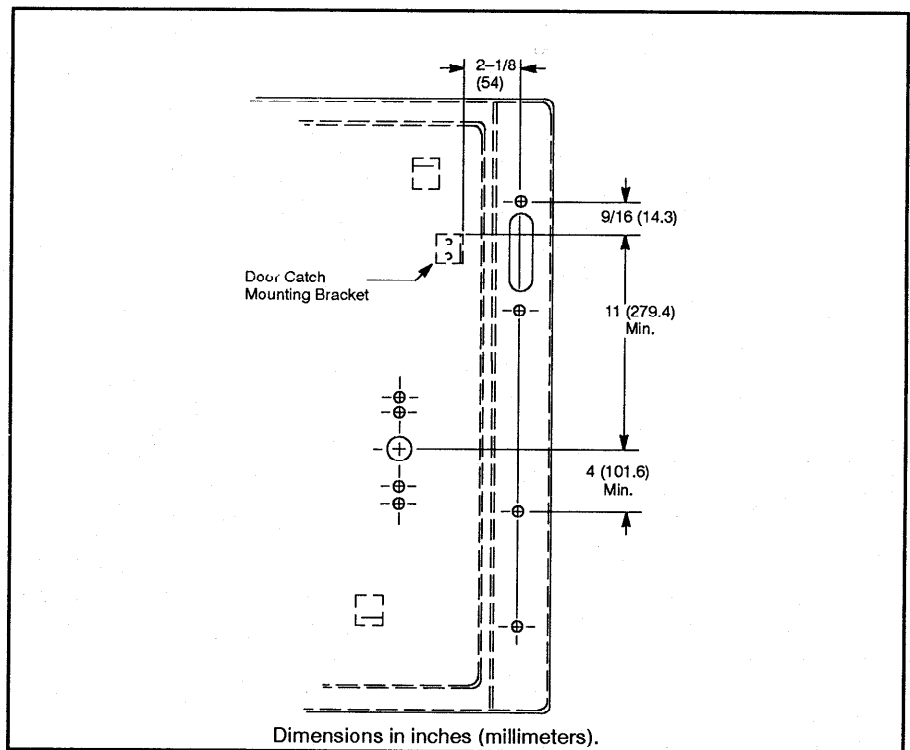

Figure 7
**Note:** For applications with door hardware kits also refer to either Figure 5 on Page 9 and Figure 6 on Page 10 (Catalog Numbers 1494V-L1, 1494V-LL1 and 1494V-L2) or Figure 7 on Page 11 (Catalog Numbers 1494V-L3 and 1494V-LL3).
1. Figure 7 is for a right hand flange installation. The left hand flange installation layout is diametrical of Figure 7.
2. The door hardware handle must be located below the operating handle. It can be installed between the sets of flange drillings as shown in Figure 7 only when the operating handle is located in the top location.
5. Locate the door catch as shown in Figure 7 to satisfy the application.